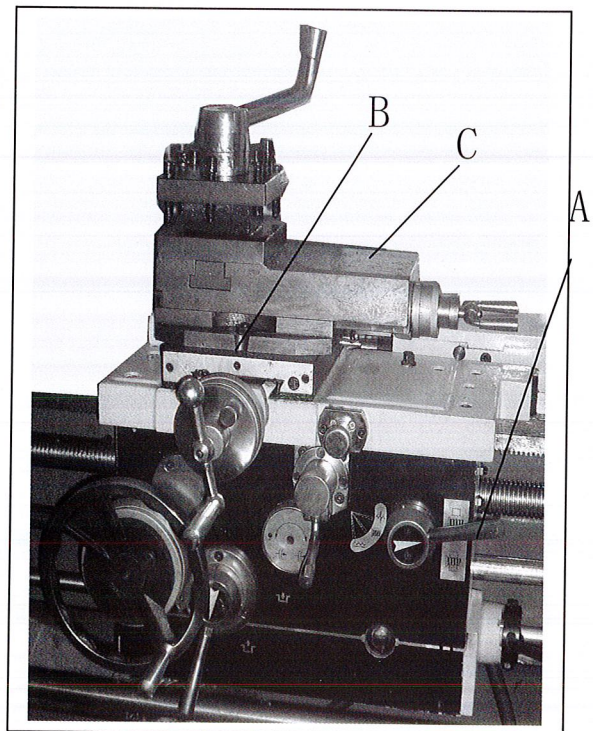

Fig.18
4. Set Selector lever (D, Fig.18) to correct position (neutral).
5. Engage the half nut lever (A, Fig.18).
The compound slide (C, Fig.18) is located on top of the cross slide and can be rotated 360°. There are calibrations in degrees (B, Fig.18) below the rest to assist in placement of the compound to the desired angle.